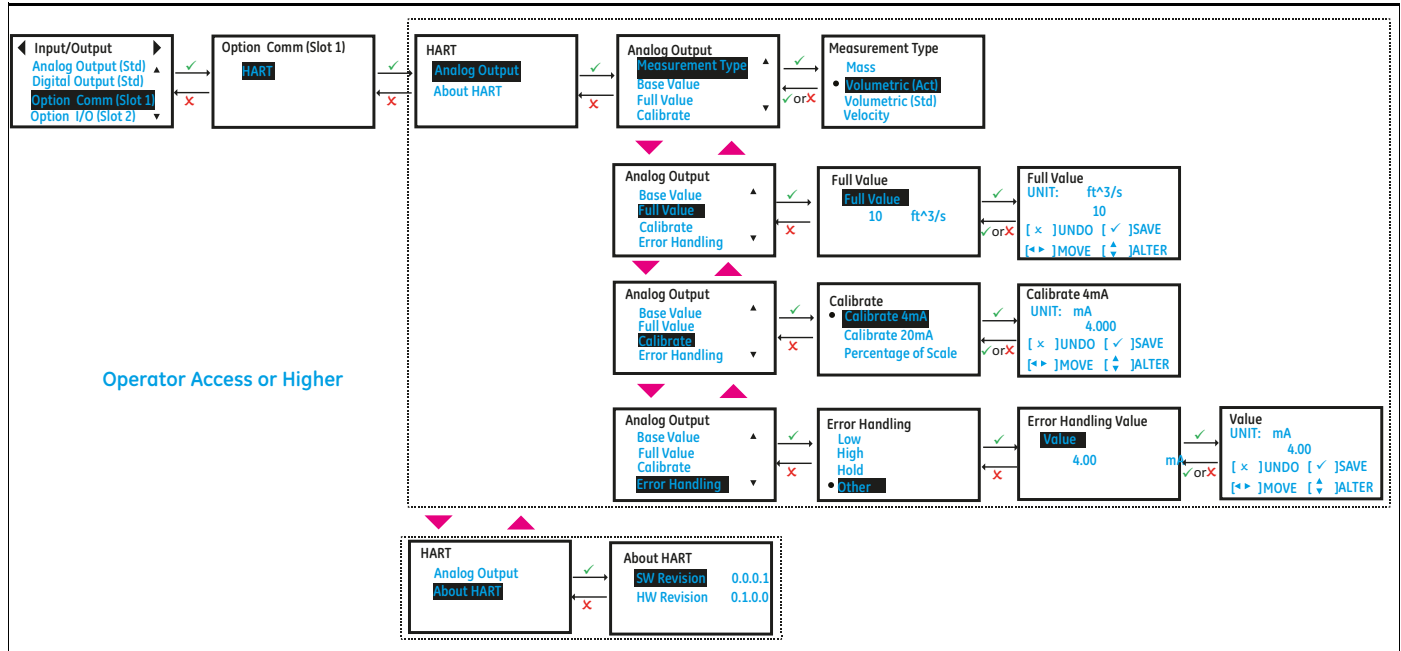

Figure 27: Option Slot-1 Configured as HART
2. You can set *Analog Output* with HART option. Refer to Figure 27 and section “Section 3.5.2.3”.